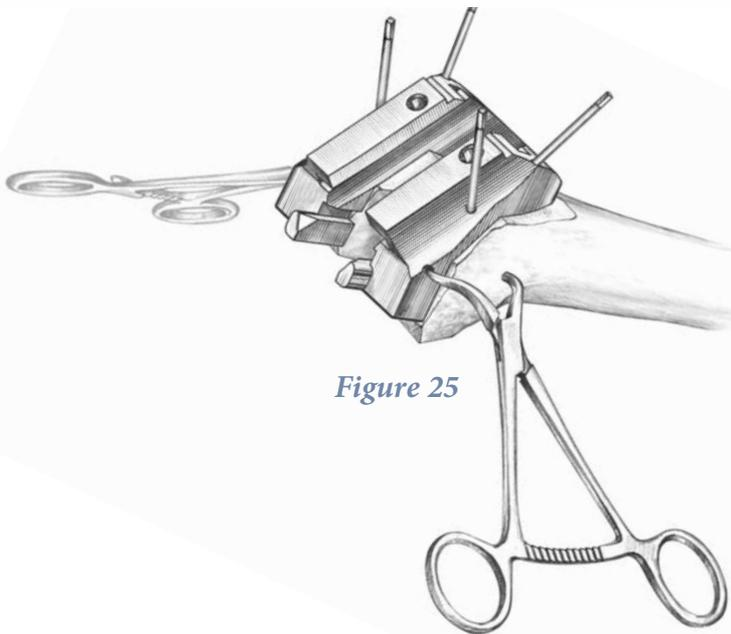

Figure 25
- ▶ Once the Notch Block is seated flush against the anterior, anterior chamfer and distal cuts of the femur, place pins through the angled holes ("X") on the anterior and/or anterior chamfer surfaces of the block (4 "X" holes at 15° (Figure 25).